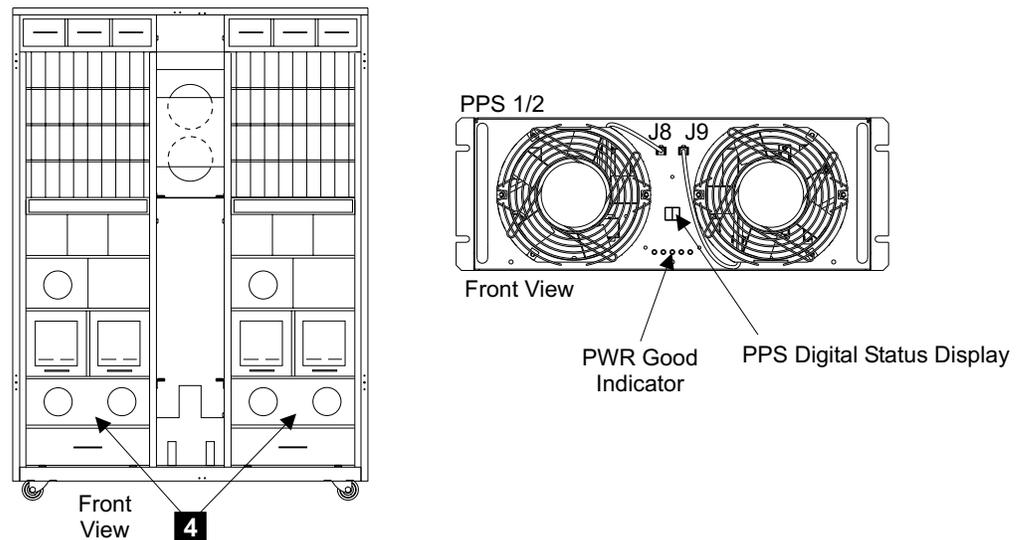

Figure 239. Primary Power Supply (S007632m)
- ___ 16. Go to the front of the 2105 Model Exx/Fxx. Verify that the PWR Good indicator **4** [Figure 239], on the front of both primary power supplies 1 and 2 is on. **Perform the action described in table Table 19.**
- ___ 18. Verify that the PPS digital status display **4** [Figure 239], on the front of primary power supplies 1 and 2 is blank.